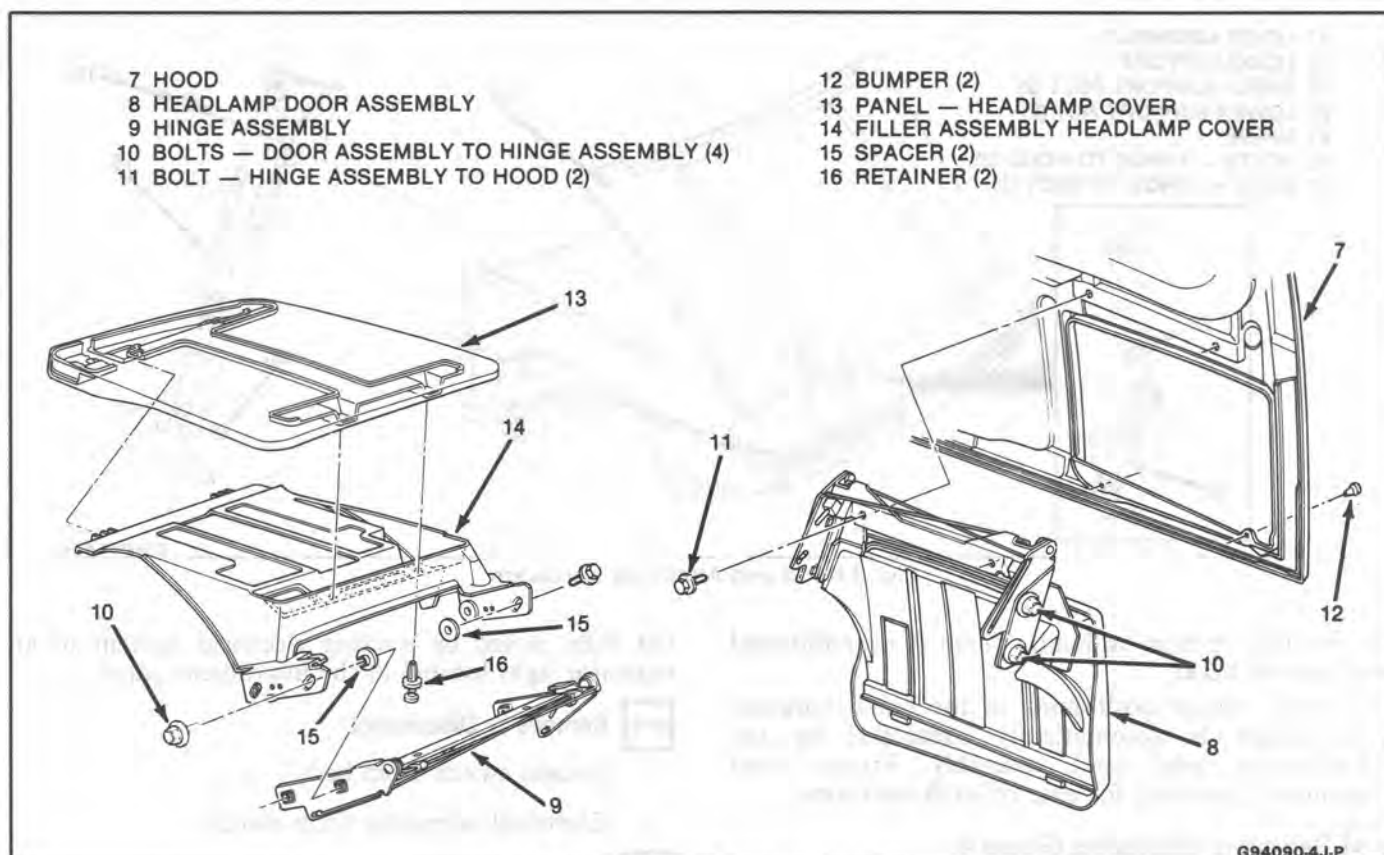

Fig. 2-Headlamp Door Assembly
1. Cover (13)
2. Cover (13) and filler (14) assembly
3. Bolts (10)
**Remove or Disconnect (Figure 2)**
1. Bolts (11)
2. Door assembly (8)
4. Hinge (9)
**Install or Connect (Figure 2)**
1. Hinge (9)
2. Bolts (10)
3. Door assembly (8)
4. Bolts (11)
**Adjust (Figure 2)**
1. Loosen four bolts (10)
3. Tighten four bolts (10)